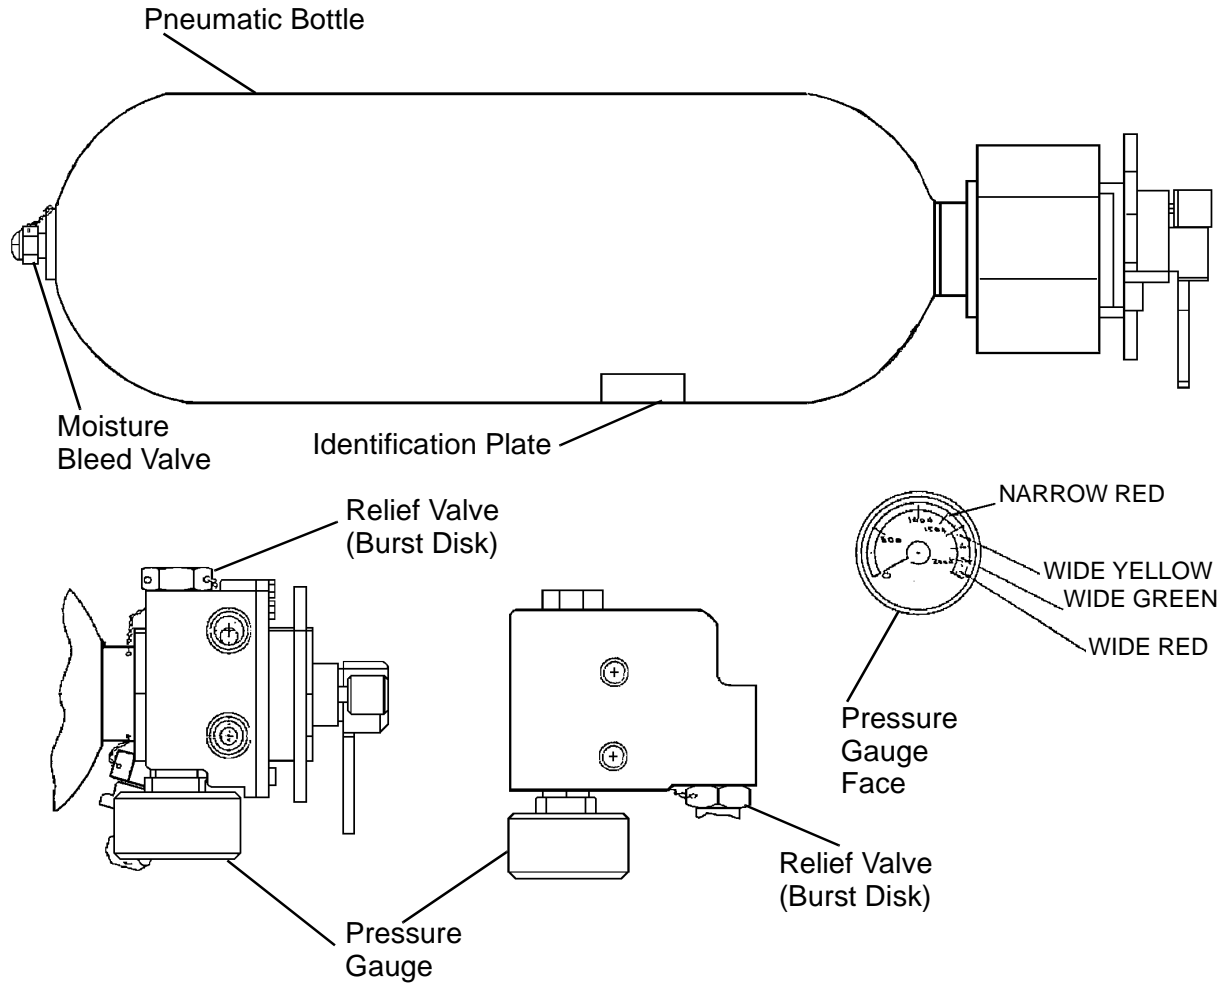

Figure 2. Primary Components for Part Numbers 212940-2 and 40005320-2
- B. Pneumatic Bottles, part numbers 212940-2 and 40005320-2, consist of a container assembly, a red discharge indicator (burst disk), a pressure gauge, and a valve (Figure 2)